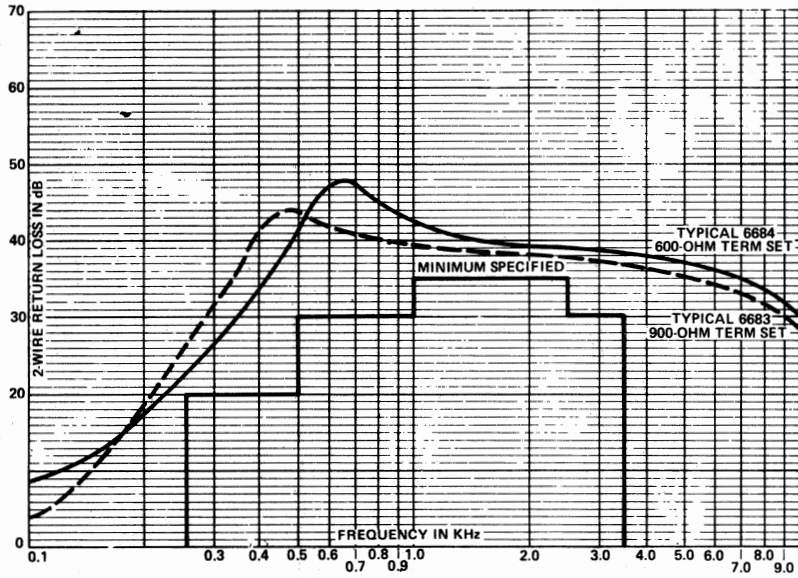
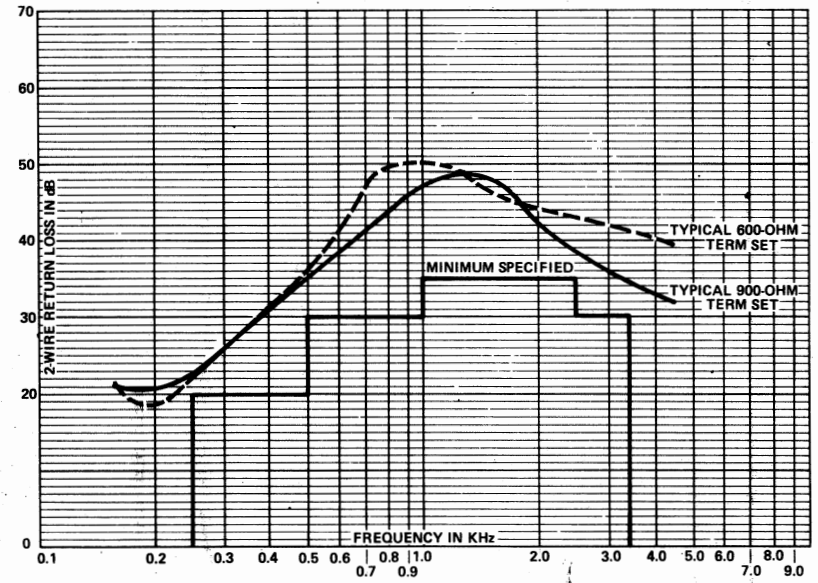

Figure 7. 2-Wire Return Loss Specification for 6683 and 6684
Figure 8. 2-Wire Return Loss Specification for 6685
- (d) TWO-WIRE RETURN LOSS: As specified graphically. Refer to Figure 7 for the 6683 and 6684 and to Figure 8 for the 6685.